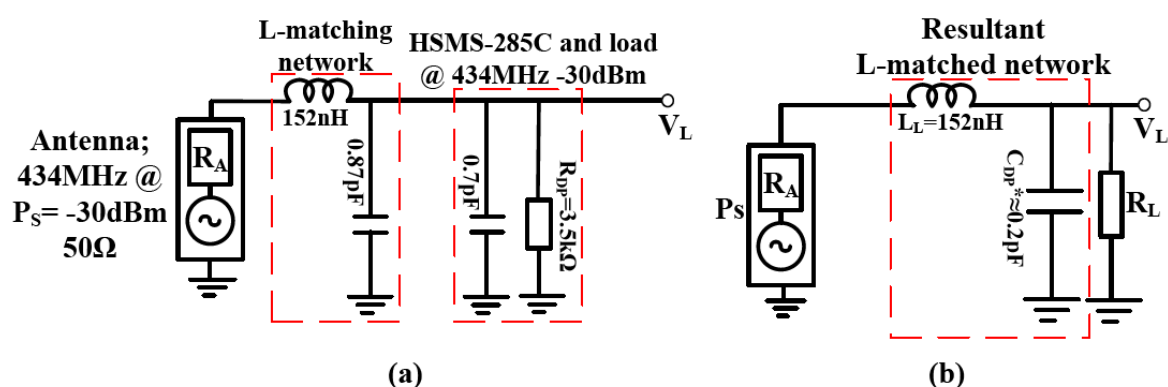

Figure 6. Cont.
The presented circuit was L-matched between the  $50 \Omega$  resistance of the antenna source and the resistance of the HSMS-285C diodes (and load) at 434 MHz for  $-30$  dBm input as shown in Figure 6. Since the series equivalent resistance of the HSMS-285C diodes and load ( $72 \Omega$ ) is greater than the  $50 \Omega$  series resistive antenna source, the diode is taken as parallel matching network with a parallel equivalent impedance of  $-j510(3519)/(-j510 + 3519) \Omega$ . The analysis follows the same procedure as in Section 2.5.2 after this step. Figure 6(b) shows the resultant L-matched RF to DC power converter.  $C_{DP}^*$  is the resultant shunt matching capacitance.
**Figure 6.** (a) L-matched impedance circuit for matching the HSMS-285C diodes at 434 MHz for  $-30$  dBm input. (b) Resultant network, (c) PCB layout of the L-matched Delon doubler with adjusted values on FR4 substrate (d) Fabricated PCB of the L-network matched Delon voltage doubler.
Figure 6(a,b) assume perfect characteristic impedance between the various components in the matched circuit. When a copper route is introduced between components and on a material substrate, it must be accounted for in the total impedance as seen by the source or load. This PCB impedance compensation is carried out in Advance Design Systems (ADS) from Agilent [36]. ADS has extensive models for microstrip substrates to account for its impedances. The optimized layout using ADS microstrip models and its compensated values in the passive tuning components for a Delon doubler is shown in Figure 6(c).